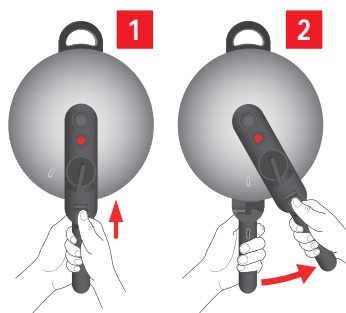

Abb. 18: Opening the lid
3. Push the opening slide into the forward position and turn the lid anticlockwise up to the limit stop (see fig. 18).